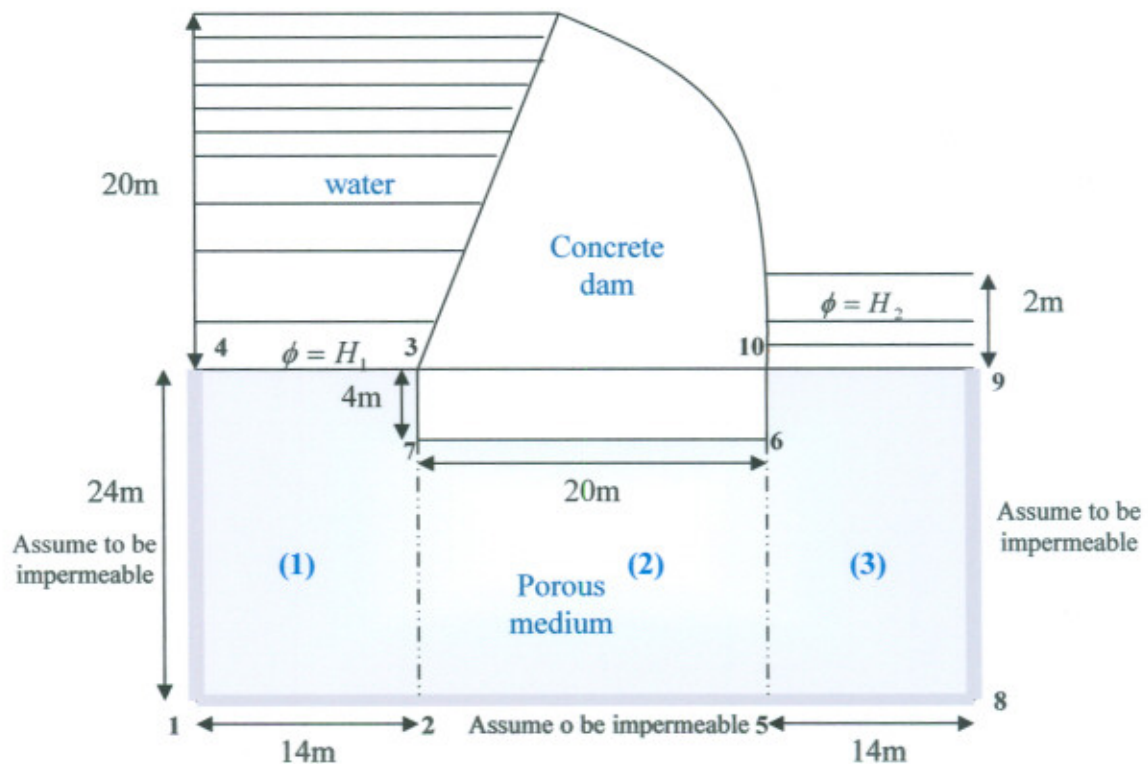

Figure 5:
Consider the seepage flow of water under the concrete dam shown in the accompanying figure 5. The permeability of the porous soil under the dam is approximated as $k = 15\text{m/day}$.
- Form a Table to discretize the piping network of figure 5 into elements and nodes, as numbered.